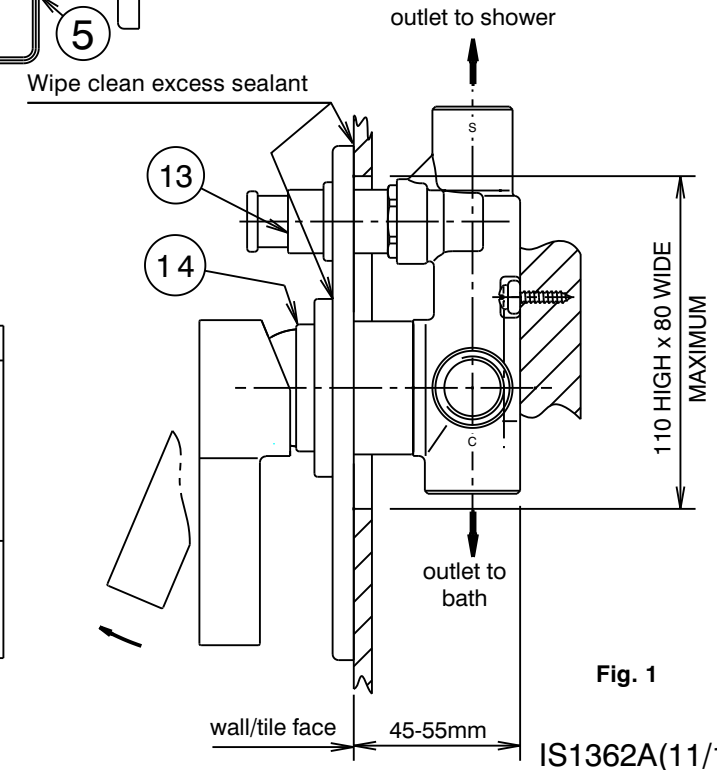

Fig. 1
Installation (Fig. 1 & 2)
- 3) Ensure that seal (8) is fitted to the cover plate (9), as shown. Carefully slide the cover plate (9) onto the diverter sleeve (13) then fit the retaining ring (7) onto the mixer body (14), ensuring the pin in the retaining ring is engaged in the slot in the cover plate (with the screws at the bottom). Push the retaining ring and cover plate firmly against the wall/tile face and tighten screws (6) using 2mm allen key (5). Wipe clean any excess sealant from the chrome surfaces & the wall/tile face (See Fig. 1).
- 4) Fit handle (1) taking care that it is pushed fully onto cartridge stem, then tighten grub screw (2) using the 2.5mm allen key (3). Fit plug (4), taking care not to damage the decorative finish.